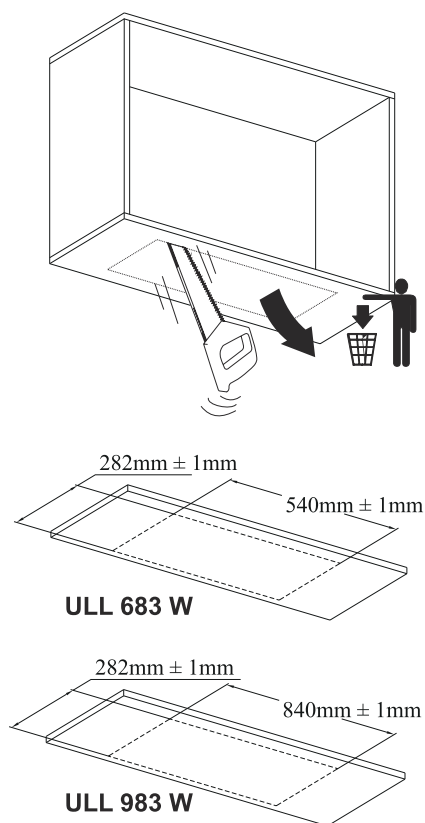

Fig. 13
1. ➔ Cut the surface of the hood to be mounted at the specified dimensions. Observe the cutting measurements of the surface where the cooker hood will be mounted on (Fig. 13).